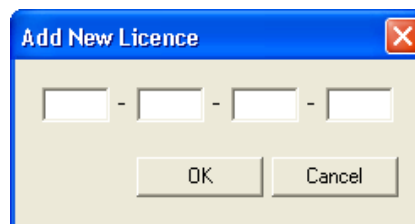

Figure 3 - Add Licence Dialog
2. Click **Add** to display the Add Licence Dialog (Figure 3), enter the licence code and then click **OK**.